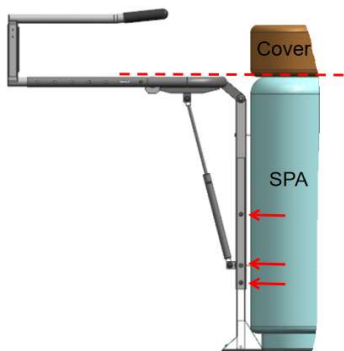
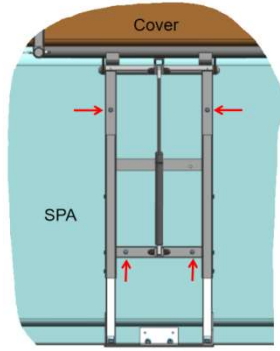

Fig.14
Fig.15
Step 7: Drill and fix 3xSt4.8x19 S/S self-tapping screws on each side. (Fig.14) Drill and fit 4xSt4.8x60 S/S self-tapping screws. The lower two screws to fit or not as necessary. (Fig.15)